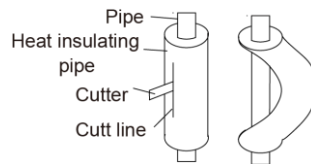

Figure 3-2-4
(1) The pipes are shaped by your hands. Be careful not to collapse them.
(2) Do not bend the pipes in an angle more than 90°.
(3) When pipes are repeatedly bent or stretched, the material will harden, making it difficult to bend or stretch them any more. Do not bend or stretch the pipes more than three times.
(4) When bending the pipe, do not bend it as is. The pipe will be collapsed. In this case, cut the heat insulating pipe with a sharp cutter as shown in Figure 3-2-4, and bend it after exposing the pipe. After bending the pipe as you want, be sure to put the heat insulating pipe back on the pipe, and secure it with tape.